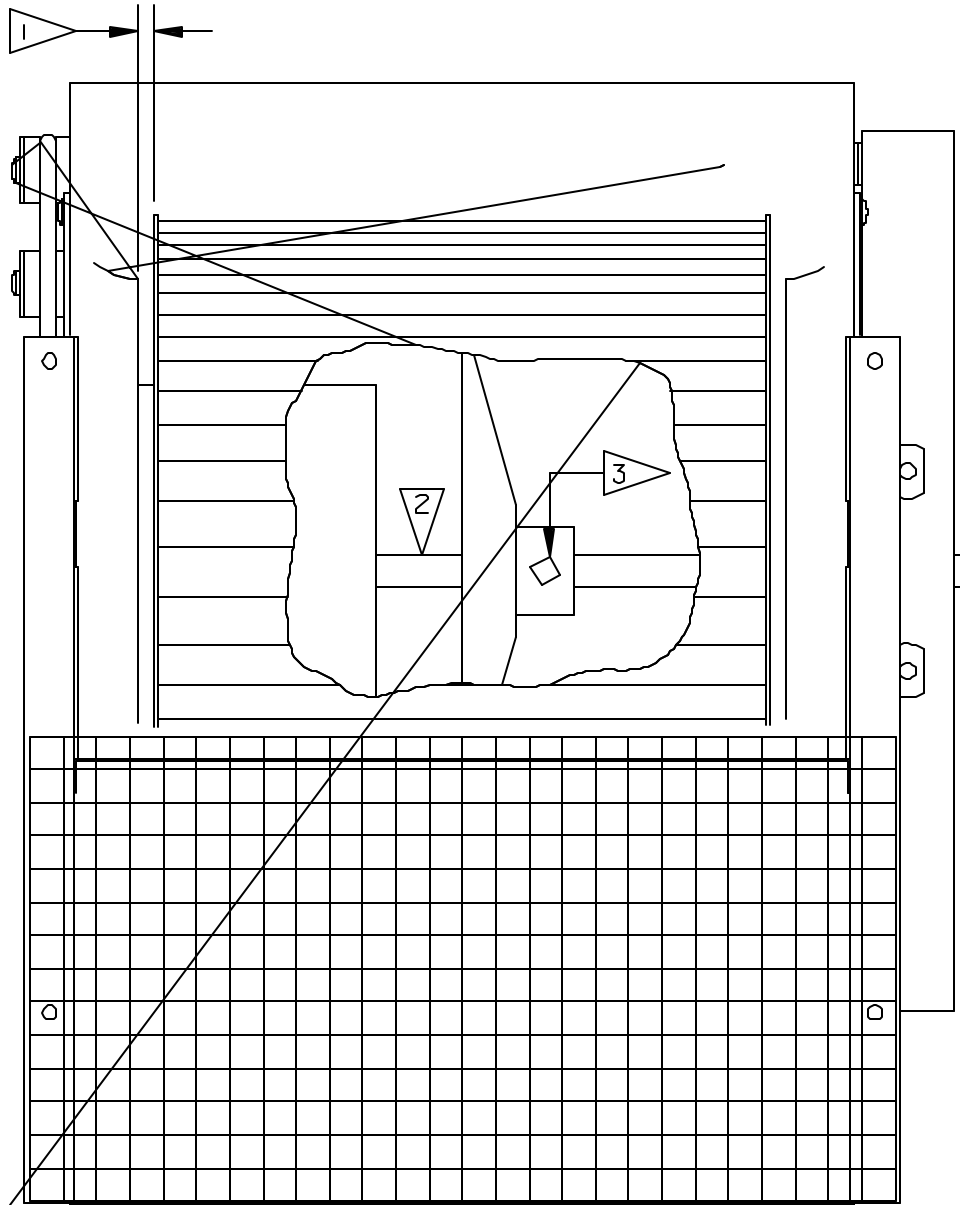

FIGURE 9
1. Remove 4 screws that attach scroll housing to basepan (See #1, Figure 9).
Note: Upon reassembly, the references made on Figures 9 and 10 shall be used for proper reassembly.